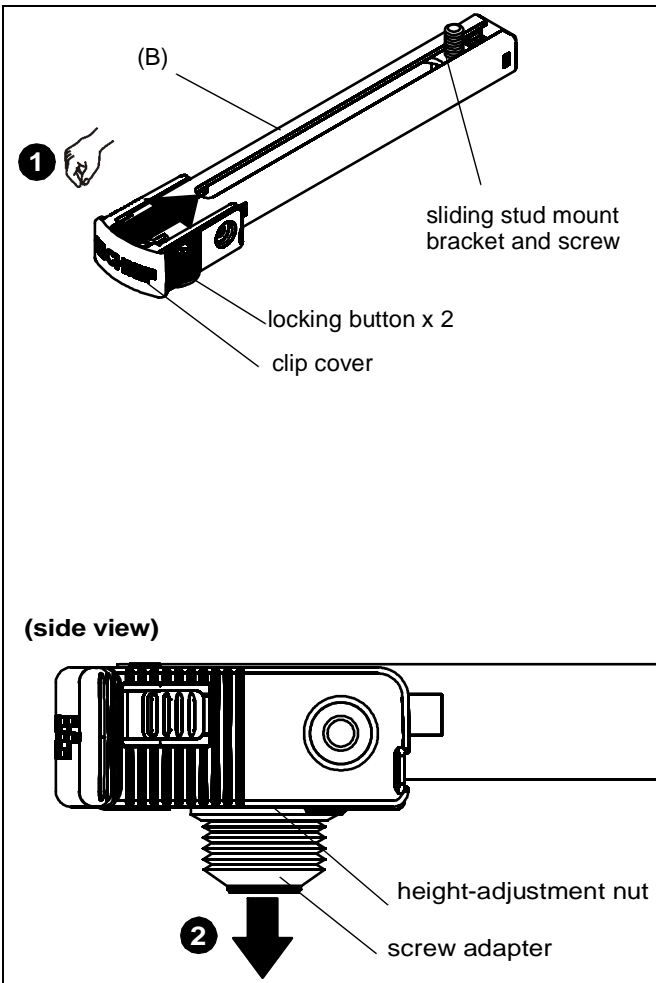

Figure 1
1. Press locking buttons on SLBU/SLMU leg (B) firmly and simultaneously push clip cover toward enclosed sliding stud mount bracket and screw. (See Figure 1)
2. Screw adapter and attached height-adjustment nut will be released. Set aside for later use. (See Figure 1)